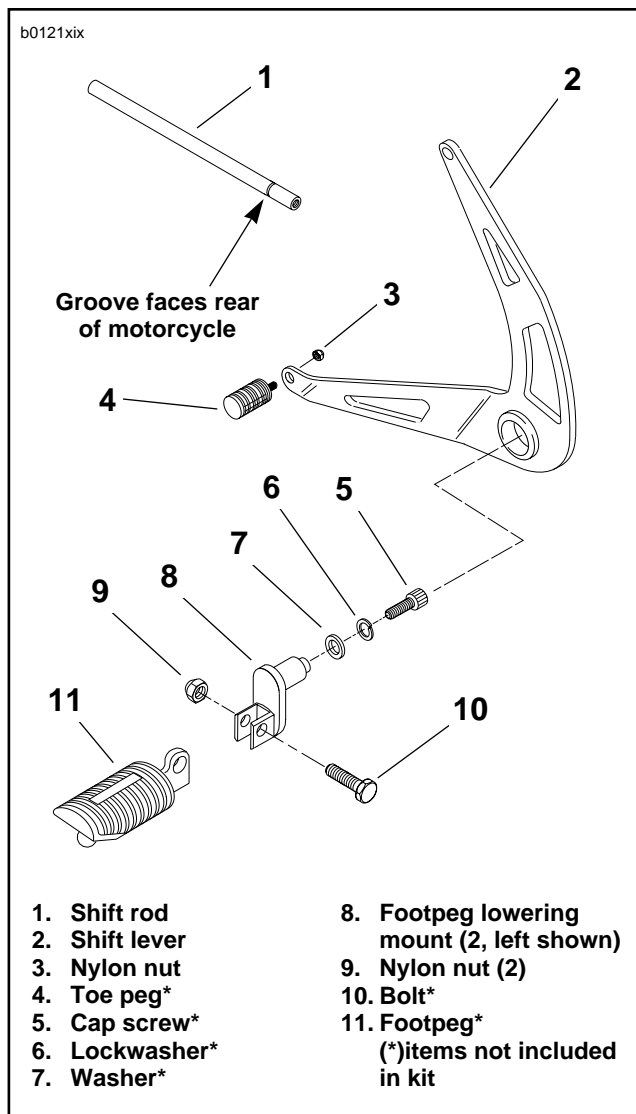

Figure 2. Lowering Kit Components
2. See Figure 2. Remove socket head cap screw (5) and hardware securing footpeg pivot mount to isolator plate. Remove footpeg pivot mount, bushings and shift lever. Keep hardware for reinstallation.
3. Remove toe peg (4) and nut (3) from shift lever. Remove footpeg (11) from old pivot mount.
See Figure 2. Left hand thread portion of shift rod (1), with groove, goes toward rear of motorcycle.